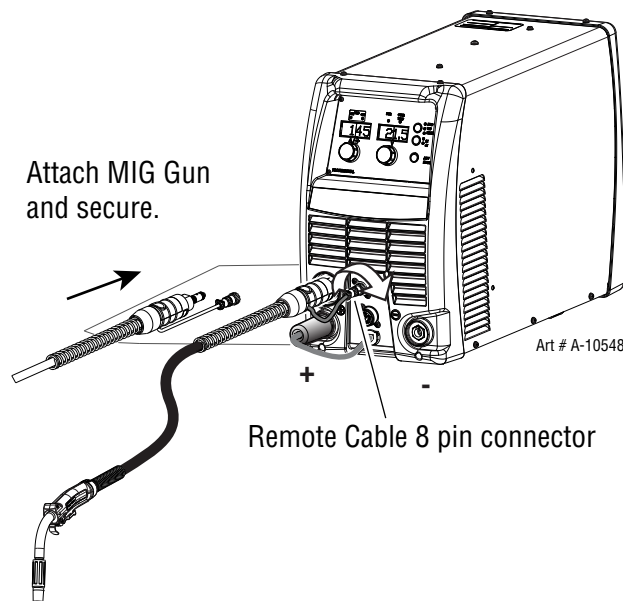

Figure 3-8: Mount Fusion MIG Gun Cable to Adapter Socket
4. If equipped, align the keyways of the MIG Gun Switch connector pigtail with the 8 pin receptacle to the right of the MIG Gun cable and plug them together. Secure by turning the locking ring to the right (clockwise). Refer to Figure 3-8.